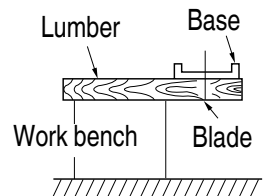

Fig. 16
10. Prepare a work bench (**Fig. 16**)